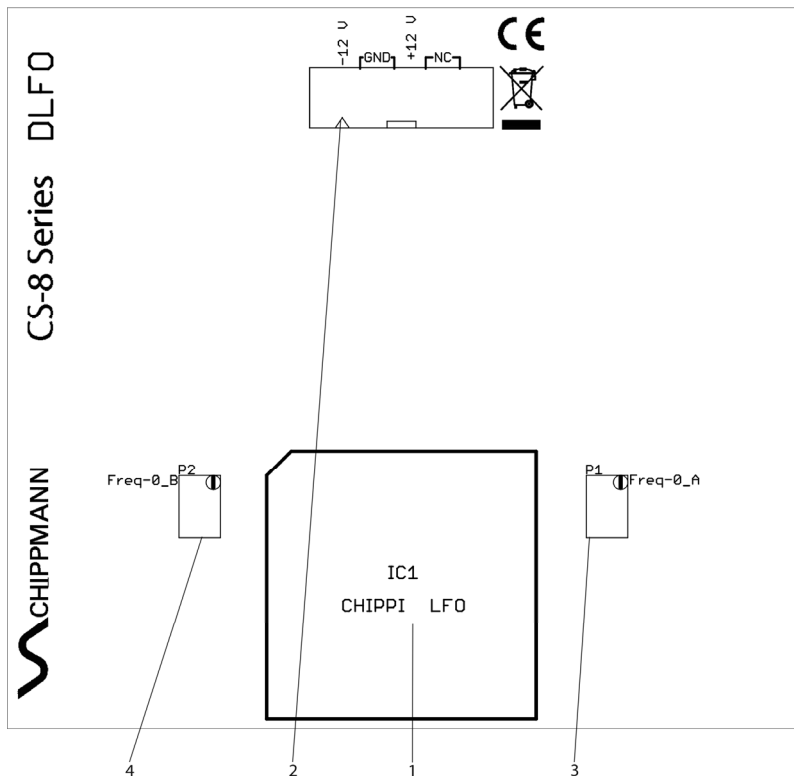

Fig. 2 Back
Fig. 2 shows the back of the module with consecutively numbered elements.
The power connector's (2) pin-out in top view (refer to fig. 2) is assigned as follows: bottom to top, left to right. Thus pin 1 is located at bottom left, pin 2 above pin 1 etc. Pin 15 is at bottom right, pin 16 at top right.
To hook up power to the module, connect one of the IDC-jacks of the included flat ribbon cable to the connector (refer to fig. 2). Observe guide key for the polarity of the connector in order to avoid pin reversal. The **red tag** of the cable **is to match the triangle-label**.